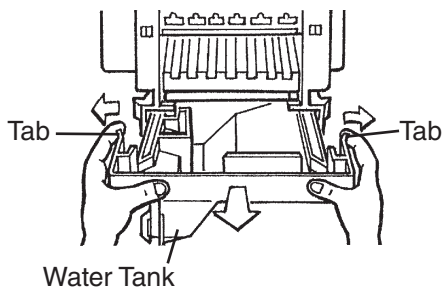

Fig. 39
- 5) Spread out the tabs to unlock the water tank, then slide it out. See Fig. 39.